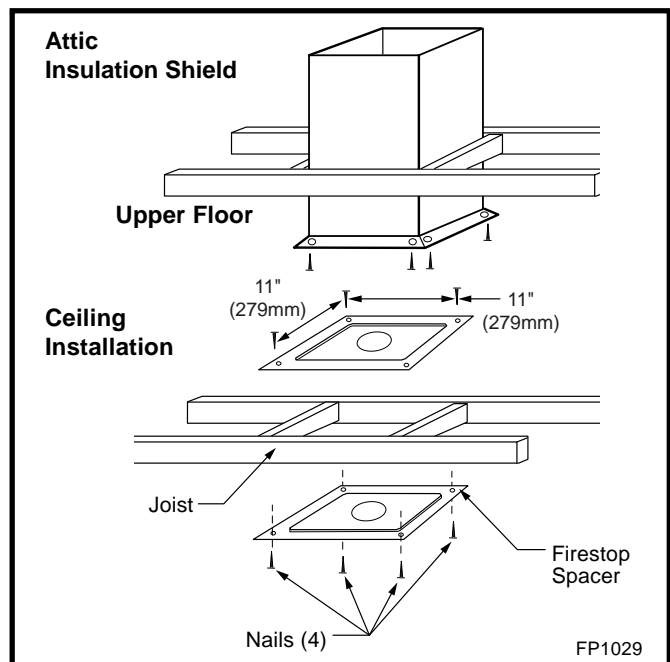

Fig. 35 Attic insulation shield and firestop spacer.
6. Place firestop(s) #7DVFS or Attic Insulation Shield #7DVAIS into position and secure. (Fig. 35)